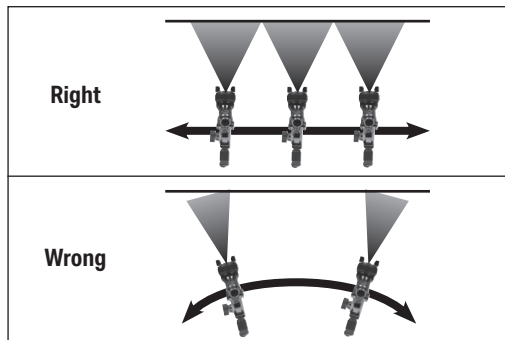

Fig. 15
- Move the spray gun with a smooth motion, keeping it perpendicular to and at a constant distance from the surface at all times (Fig. 15).